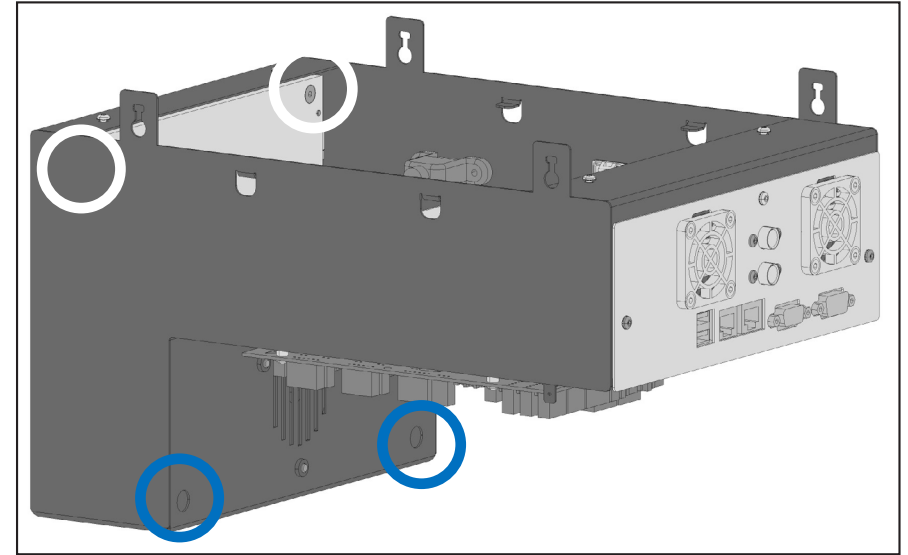

Figure 78: The PC and touchscreen module seen from the back, with the securing screws of the touchscreen indicated
4 Unscrew the four (4) touchscreen securing screws: two (2) 2-millimeter hex socket screws accessible through the back side of the touchscreen casing, and two (2) 2-millimeter hex socket screws at the back of the touchscreen unit inside the module housing (see Figure 78).